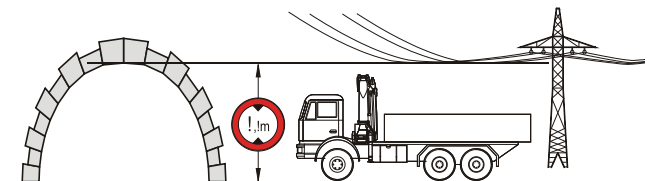

Figure 8.15: Maintain required clearances from tunnels and power lines when in transit.
- When in transit, maintain proper clearance from electrical power lines (Figure 8.15); *note that when stowed and in transit, the distance to power lines is not the same as when operating the crane (per Figure 7.2).*